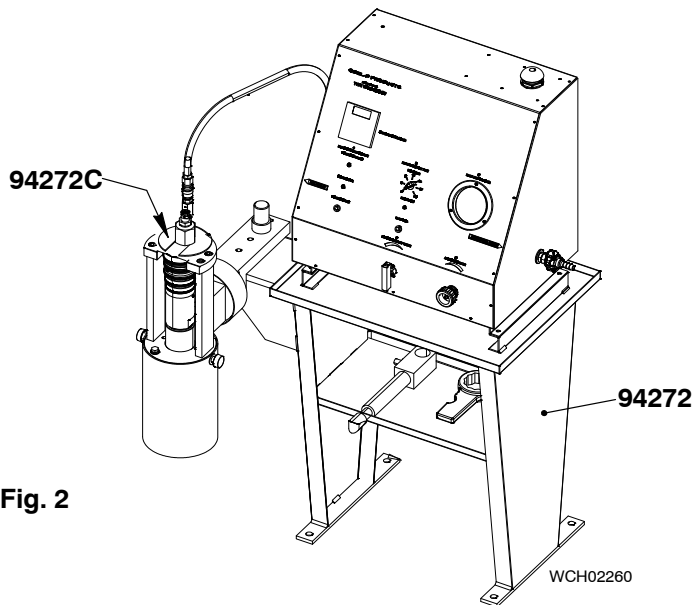

Fig. 2
- 3) Attach the valve holder (94272C, Fig. 2), to the test bench (94272).
- 4) Attach the relief valve (2) to the valve holder (94272C).
- 5) Do a check of the blow-off pressure on the relief valve (2).
- 8) Remove the relief valve (2) from the valve holder (94272C).